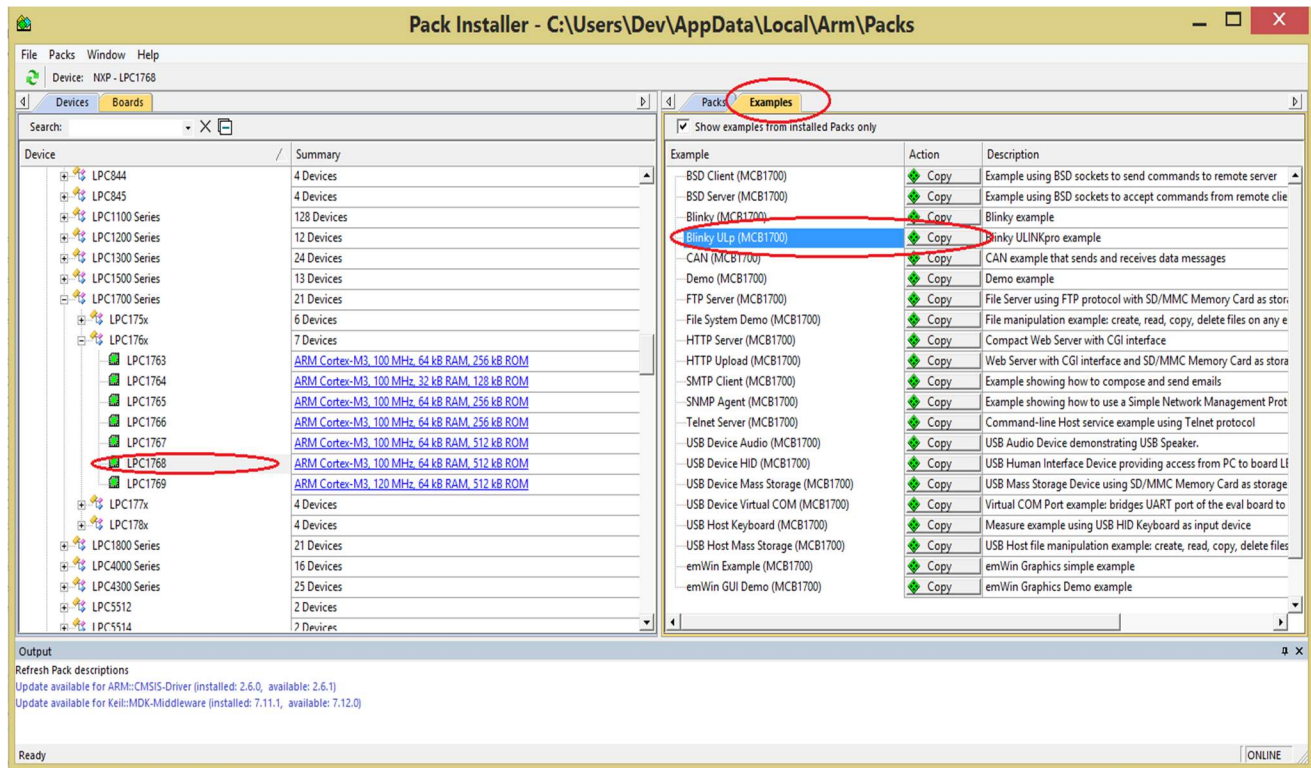

Figure 12: Copy Blinky Project
3. The Pack Installer Opens up Select the Blinky ULp Project. As shown in Figure 12.